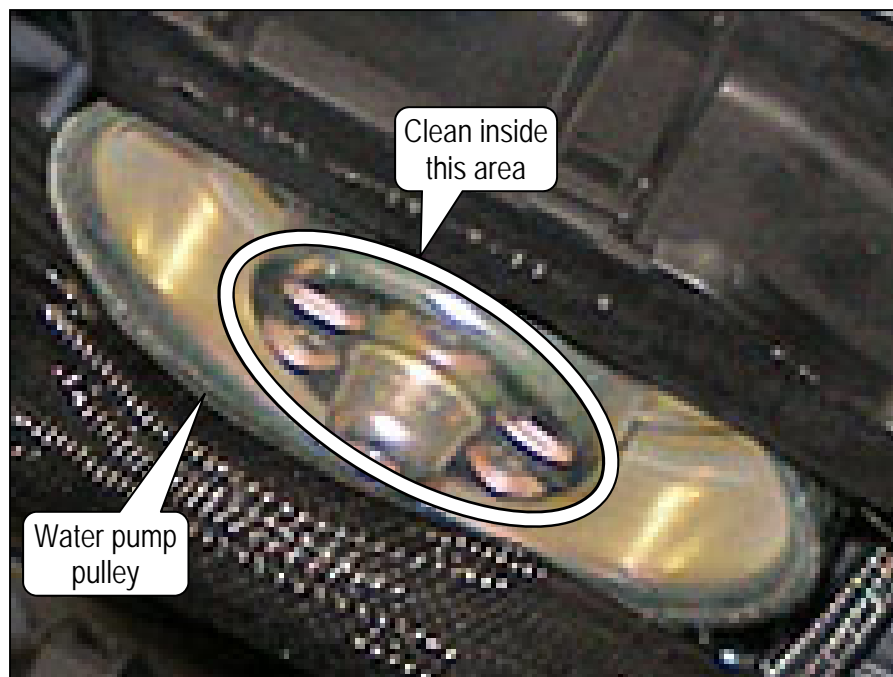

Figure 4
3. Clean the face of the water pump pulley ONLY (see Figure 4).
Apply the cleaner to the clean cloth, and then clean off the area where shown in Figure 4. Do NOT spray anything directly on the water pump pulley as damage may occur to the water pump seal.